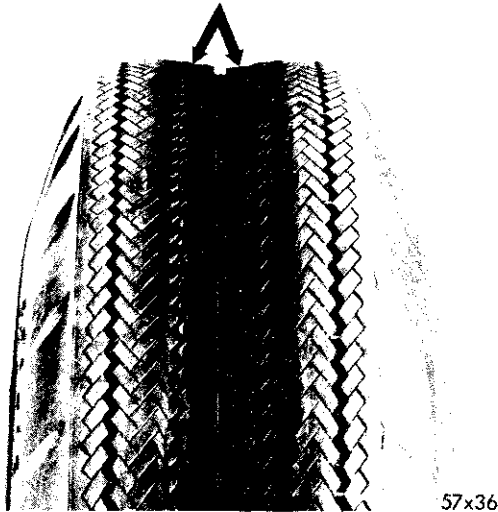

Fig. 3—Over-Inflation Wear
2. **CENTER RIBS WEAR (Fig. 3)**